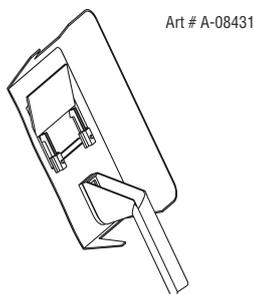

Figure 3-2: Clip welding lense into position as shown
- Clip the welding lense supplied into position as shown in Figure 3-2 below.